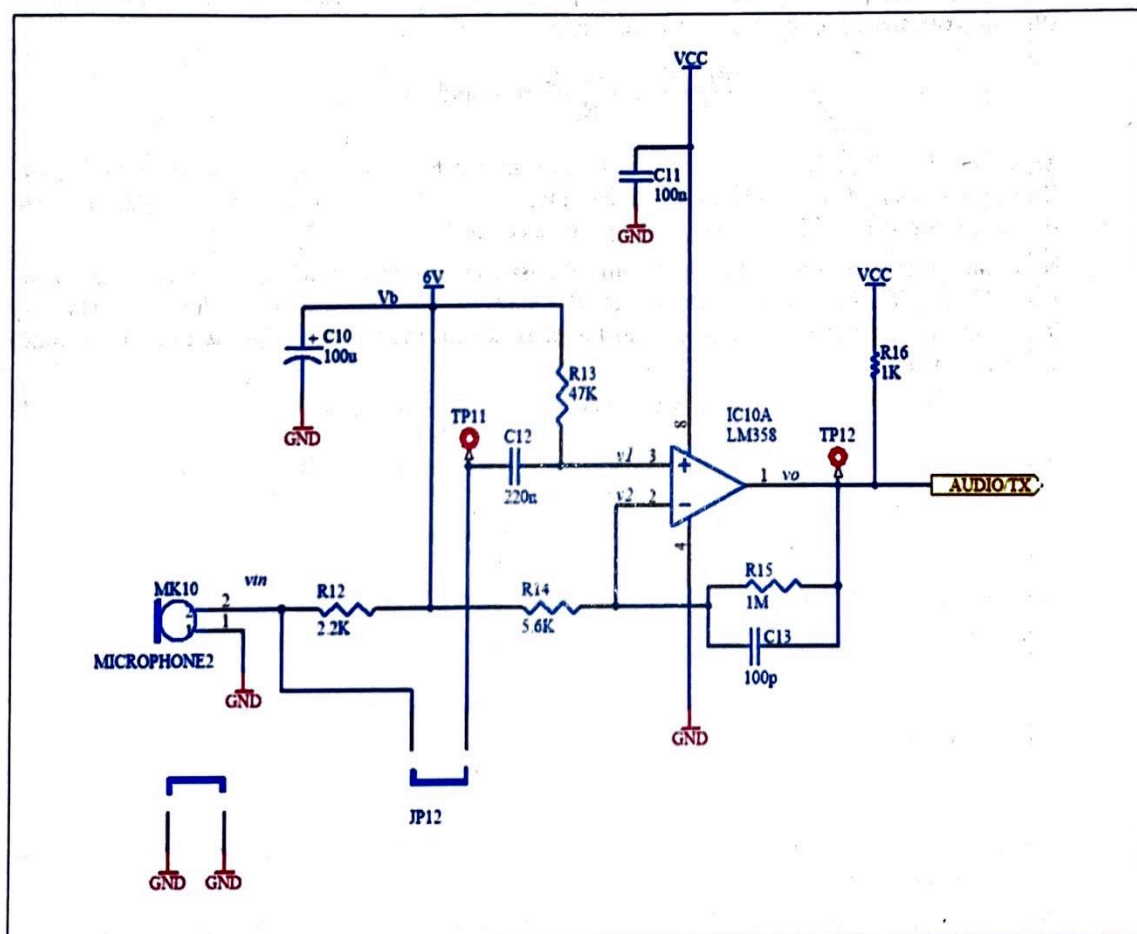

Figure 1: Schematic of microphone amplifier
1. Consider the TRC-11 microphone amplifier circuit shown in Fig. 1, making use of one of the two OPAMPs in LM358 integrated circuit. Since the OPAMP operates with a single supply voltage, the input DC voltages of the OPAMP should be shifted to a voltage somewhere between V_{CC} and GND. For this purpose, we use the regulated voltage, +6V.